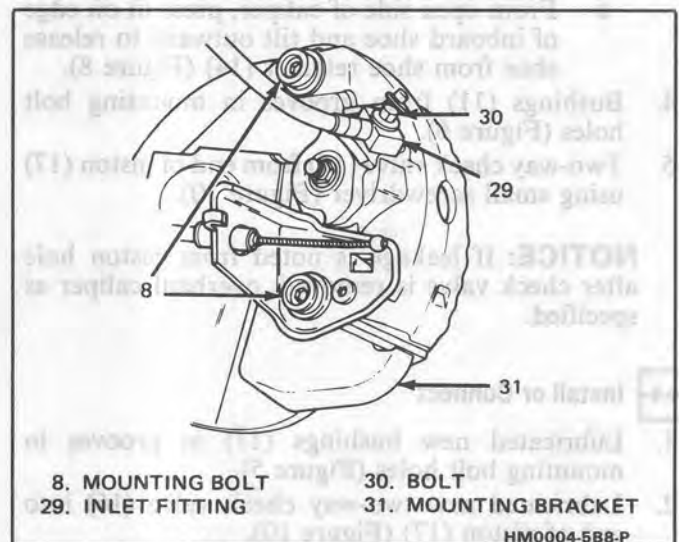

Fig. 4 Caliper Attachment
6. Inlet fitting (29) with bolt (30), if removed, to 42 N·m (31 lb. ft.) (Figure 4).